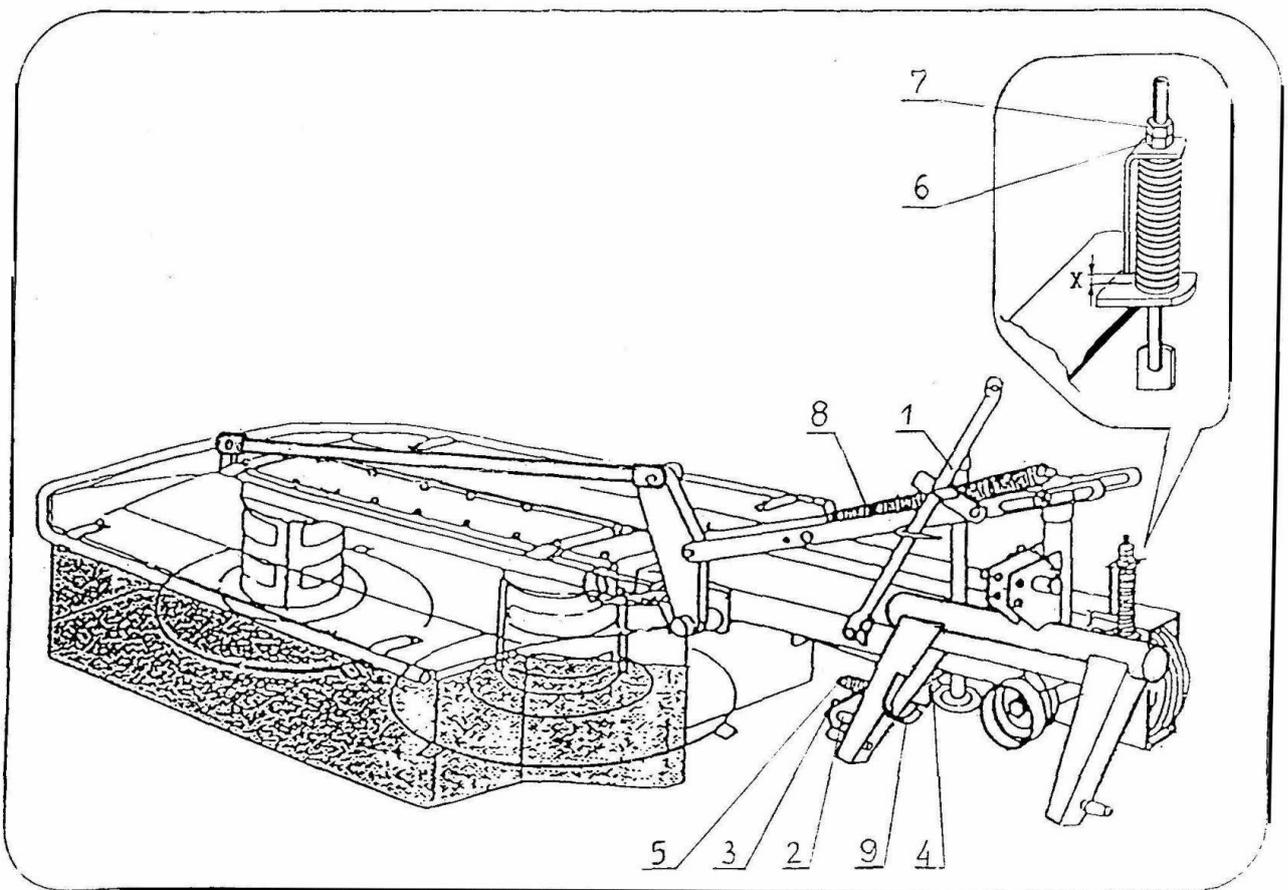

Fig. 5. Mower in work position.
- When mowing on uneven ground or in cooperation with lighter tractors on steep slopes suspend the spring (pos. 8. Fig.5.) to down hole.
- During the season check the functioning of the lock every day (pos. 4. Fig. 5.). If the mechanism functions while mowing, even though no obstacle has been struck, this means that the force of the spring is too small and it should be tightened better with a securing nut (pos. 5. Fig. 5.).
- **During the first few hours of work carefully watch the behaviour of V-belts, after 0,5 – 4 hours of work under full load – tighten belts. The ‘x’ clearance (Fig. 5) should be approximately 1 mm. This clearance is adjusted with nuts 6. and 7. Proceeding like this the initial stretch is considered. After next 24 hours of work check the indicator again and tighten belts if necessary. Maximum ‘x’ clearance cannot exceed 3 mm. Next inspections can be done even after few hundred hours of work.**